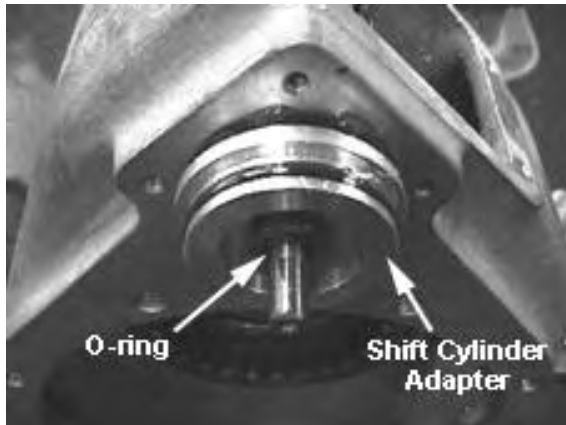

Fig. 78
36. Install the shift cylinder adapter into the case. *See Fig. 78.*